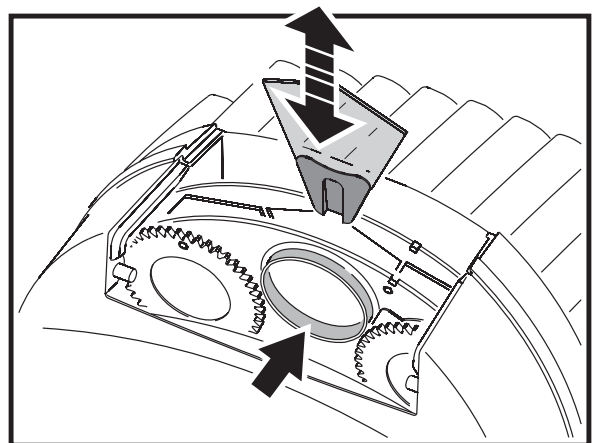

Figure 15: Changing gobos and filters
5. To remove a color filter, turn the gobo wheel so that the open position (arrowed in Figure 15) is in front of the filter. Gently press the filter towards the lens to release it and then grasp it by the edges and remove it. If your fingers are too large, protect the glass with a piece of paper that has been folded several times and grasp the filter with needle nose pliers.